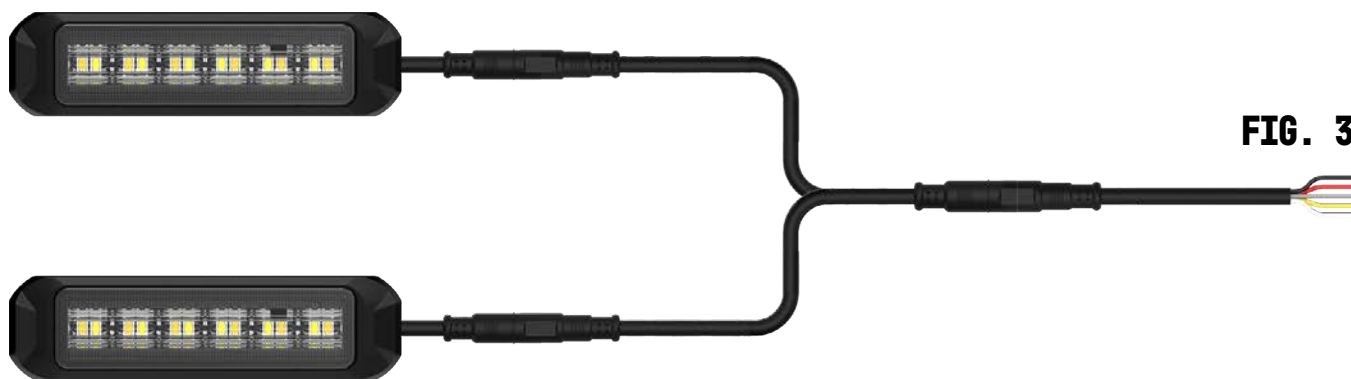

FIG. 3
4. Use two of the 5 core pigtails that come with the perimeter strobe lights to program each of the light bundles separately (Fig. 3). If preferred, connect the wires of the pigtails together to program all 4 lights at once.